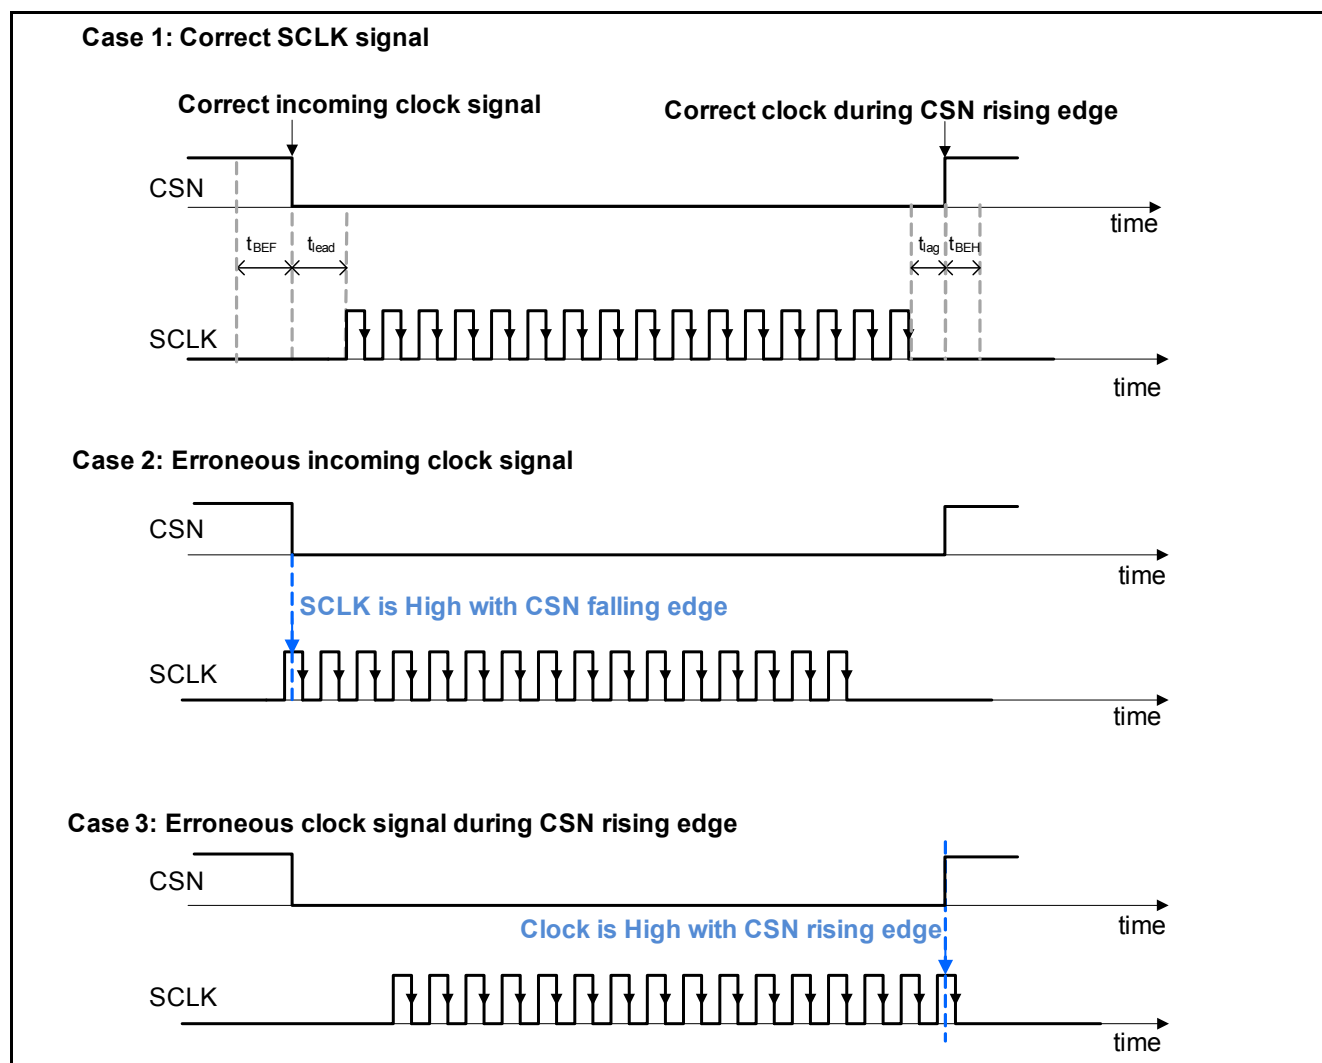

Figure 15 Clock Polarity Error
- a clock polarity error is detected (see Figure 15 Case 2 and Case 3): the incoming clock signal was High during CSN rising or falling edges.